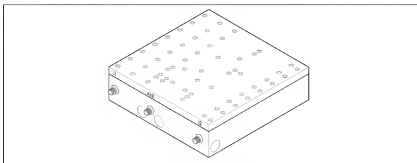

Figure 2-2. 2.4 GHz Diplexer
2. The RF unit may be identified by following the connection from the port labelled "IF" on the rear of the RFC. This connection terminates at the RF unit. The diplexer may be identified by following the connection from the "Antenna" port on the rear of the RFC. This connection terminates at the diplexer, illustrated in **Figure 2-2**.